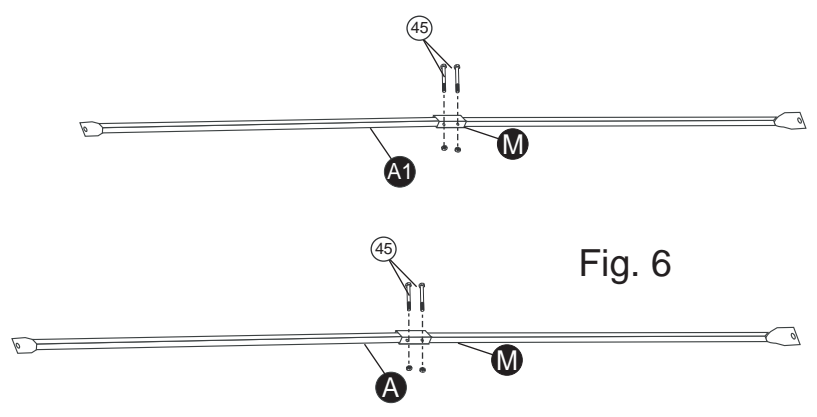

Fig. 6
4. Combine all Leg/Leg Cross Braces **A** using 2 Brackets **M** and **2-45mm bolts**. (See Fig. 6) This will make 2 **A** Cross Brace Assemblies.
6. Combine all Ladder/Leg Cross Braces **A1** using 2 Brackets **M** and **2-45mm bolts**. (See Fig. 6) This will make 4 **A1** Cross Brace Assemblies